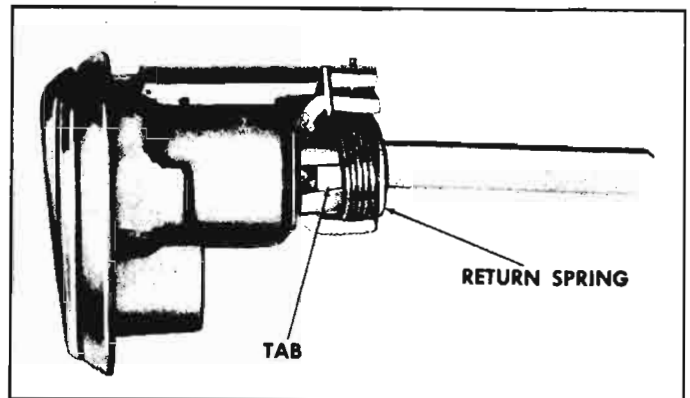
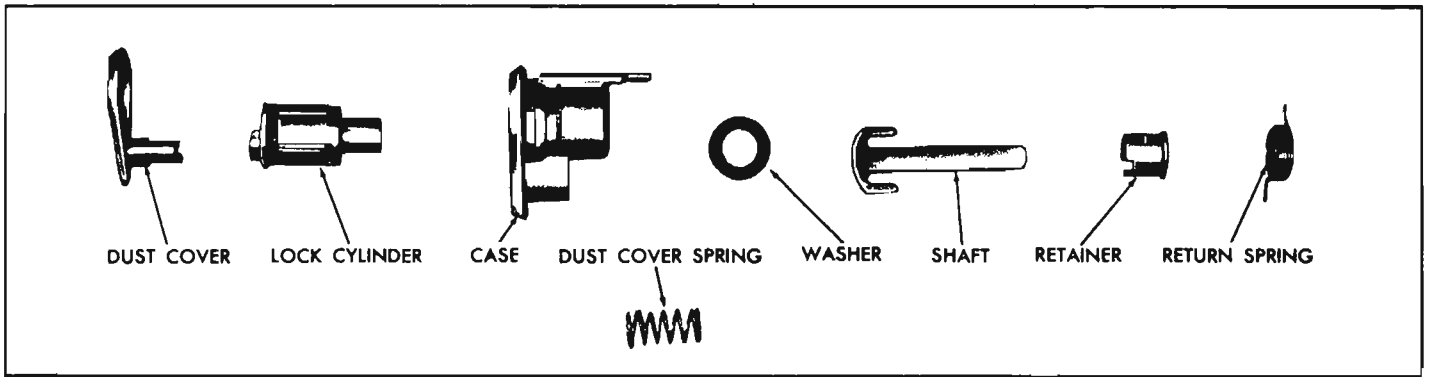

Fig. 10-17—Front Compartment Lid Lock Cylinder Assembly
Fig. 10-18—Front Compartment Lid Lock Cylinder Disassembled
2. Disengage return spring (fig. 10-17) from lock cylinder case and remove spring.
3. Disengage retainer tabs (fig. 10-17) from lock cylinder case; then remove retainer, shaft and lock cylinder assembly (fig. 10-18).
4. Disengage dust cover spring from end of dust cover shaft and remove spring and cover (fig. 10-18).